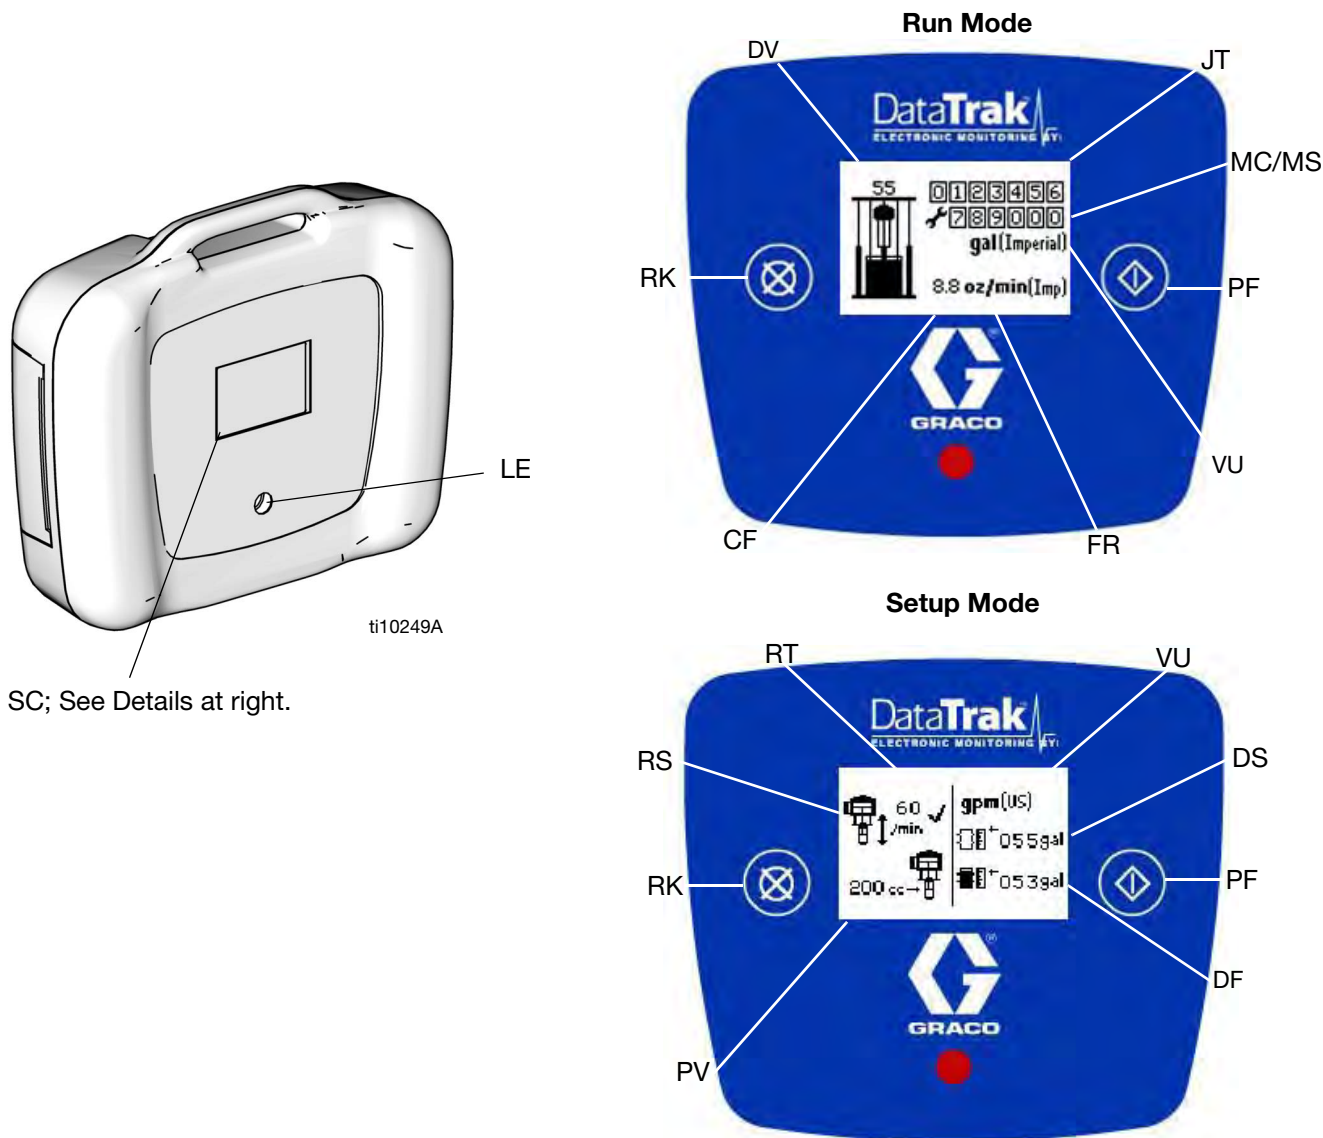
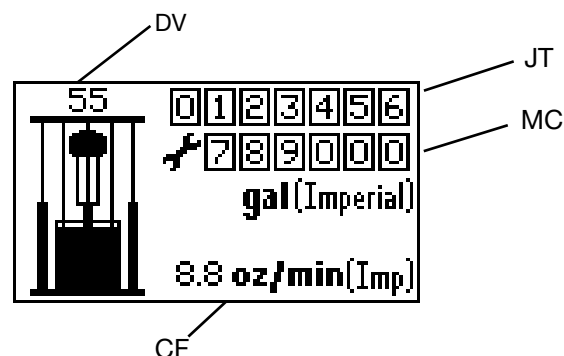

FIG. 24: Remote DataTrak Controls and Indicators
FIG. 27: Run Mode Screen
4. The Splash Screen (FIG. 26) will flash on while the progress bar fills from left to right. It will then go directly to Run Mode (FIG. 27).
See FIG. 24 and FIG. 27.
2. While in Prime Mode, the job total counter (JT) is blank and will not count. However, the maintenance counter (MC) will continue to decrement.
3. When a new drum is installed, press and hold  while in Prime Mode to reset the drum volume remaining (DV) to the drum fill volume (DF).
4. To exit Prime Mode, press . The Prime symbol will disappear and the LED will stop flashing; the screen will return to Run Mode (FIG. 27).
NOTE: If a key is not pressed within one minute of entering a setup screen, the system will return to Run Mode (FIG. 27).
- a. Press and release  to enter Diagnostic Mode from Run Mode (FIG. 27).